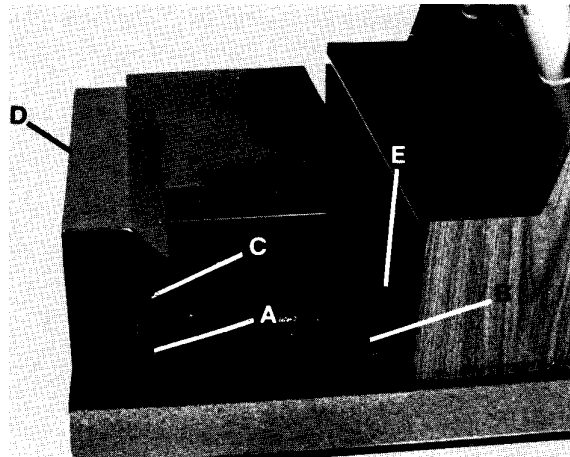

Fig. 25
- 1) Loosening the (4) screws, Item A, Fig. 25 located at the rear of the front step, Item D, Fig. 25 and (4) screws, Item B, Fig. 25 located in the step channel, Item E, Fig. 25.
- 2) Loosening the (2)  $\frac{3}{8}$ "-16x $\frac{3}{4}$ " hex head bolts located inside of the front step, (1) bolt at each end. See Pt. C, Fig. 25.
- 3) Adjusting the front step, Item D, Fig. 25 and the step channel, Item E, Fig. 25 so that the footstep slides easily with little sideplay.
- 4) Tightening the (4) #10-24x $\frac{5}{8}$ " screws, Item A, Fig. 25, the (2)  $\frac{3}{8}$ "-16x $\frac{3}{4}$ " bolts located inside the front step (See Pt. C, Fig. 25), and the (4) #10-24x $\frac{5}{8}$ " screws, Item B, Fig. 25.